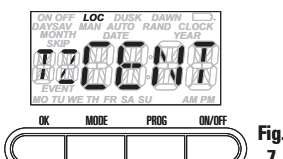

Fig. 7
- The timer will now display **LOC**, "TZ" and the selected time zone for your location (Fig. 7). If the timer's selection is correct, press the **OK** button right away, otherwise turn the selector knob until the correct time zone shows in the display and then press the **OK** button.